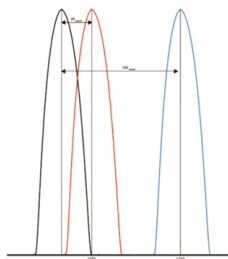

Figure 1. Limits of Detection and Quantitation
- **Limit of quantitation (LOQ):** lower limit of a method or system between which the target can be reasonably calculated where two distinct values between the target and blank can be observed (usually over ten standard deviations from the blank response) (6-AOAC). (Figure 1).